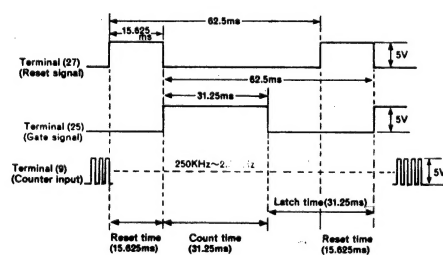

Fig. 8
When this unit is changed over to the frequency indication mode, the dividing ratio during FM and SW is set to 1/40 during FM and to 1/20 during SW depending on the setting of the band selector switch for changing the frequency of the local oscillator. Next, the band selector signal is output to change over the frequency input during FM/SW/MW. The reset signal is obtained at terminal (27) of IC505 from the reference signal generator circuit, and the gate signal, to terminal (25), for timing of the count operation. (Shown in Fig. 8). When the reset signal is at H level for 15.625ms, the internal counter is reset. The gate signal rises simultaneously when the reset signal decays and stays at H level for 31.25ms. The pulses input from terminal (9) of IC505 are counted during this period. This counter is a 6-digit decimal counter and a latch circuit, which temporarily stores the data after completion of counting in each counter. With this latch circuit, terminal (25) resets memory at H level and the data is temporarily stored just before becomes L level. Data from each latch circuit is transferred to the microcomputer divided into 6 to match the timing of the 6-phase signal produced inside IC505. Terminal (23) (24) are always set to H level to operate the 6-digit decimal counter.